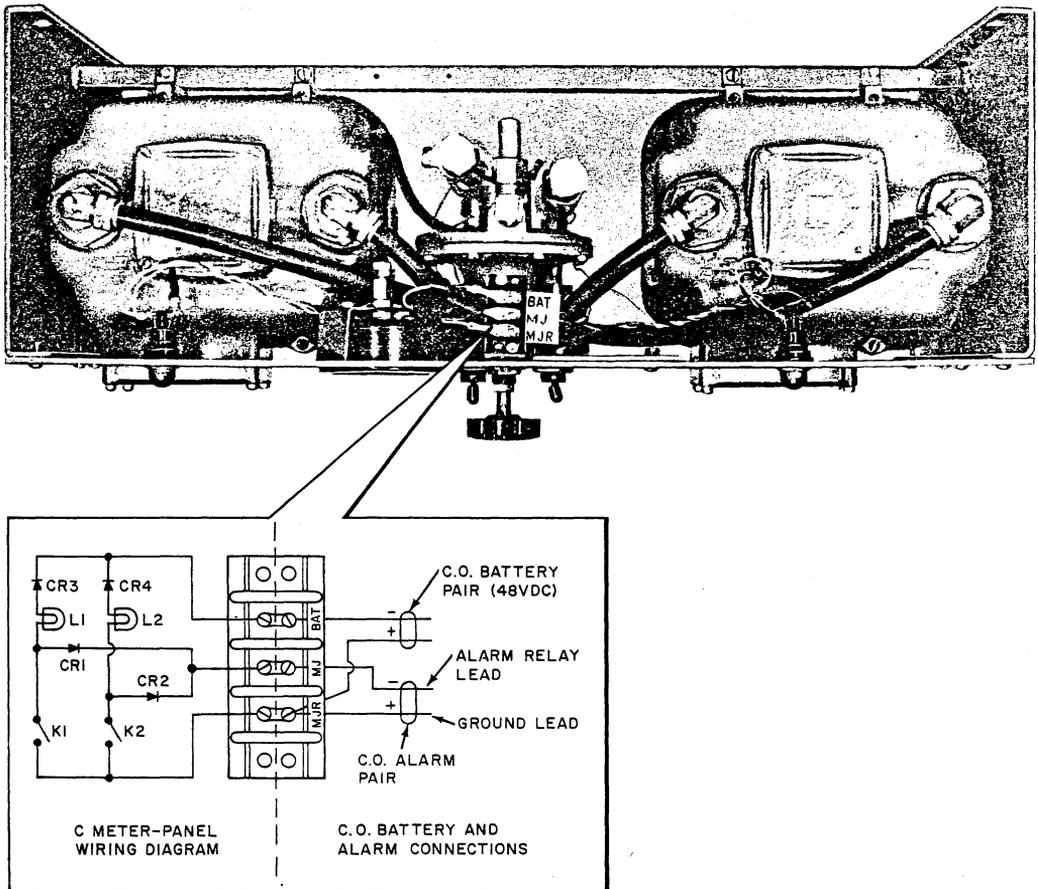

Fig. 8—*C* Meter-Panel—Top View (Wiring Diagram)
5.07 For *C* meter-panel installations, determine the CO battery and alarm circuits, the polarity of each, and terminate the conductors on the meter-panel terminal strip, as shown in Fig. 8.